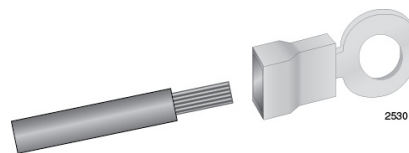

Figure 35. Attaching the Stranded Grounding Wire to the Ring Lug
2. Insert the grounding wire into the ring lug and use a crimping tool to secure it. Refer to Figure 35.